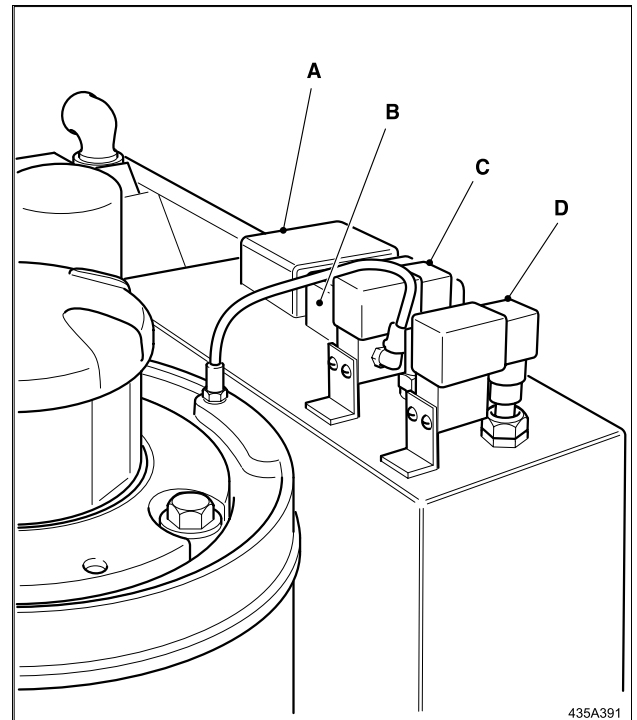

Fig. 16 - Pressure Switch Locations (7.5kW machine illustrated)
9.1 Standard Compressor Control Fig. 16